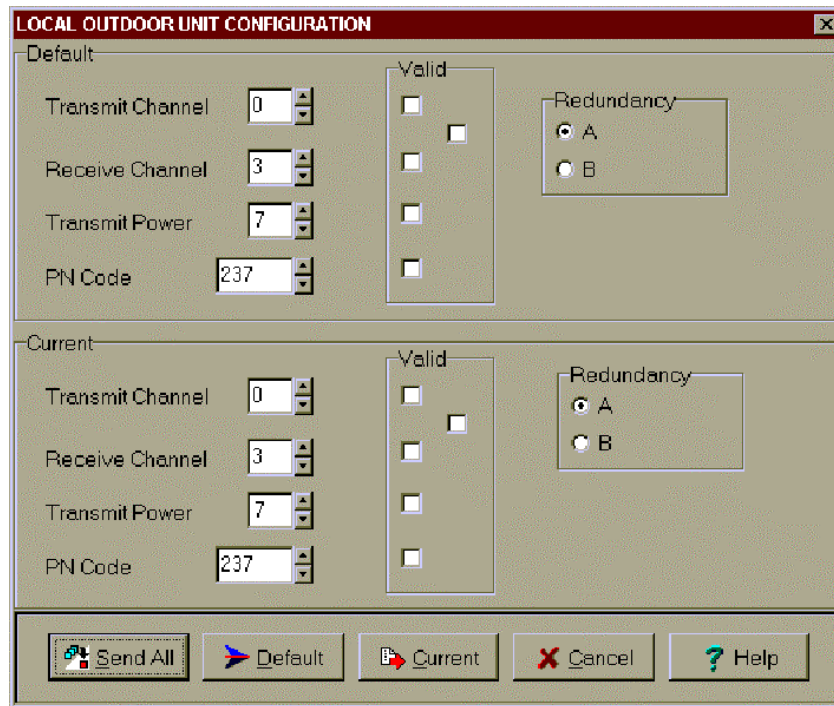

Figure 20. Outdoor Unit: Typical Configuration Screen.
**Default** and **Current** OU parameters (see Figure 20):